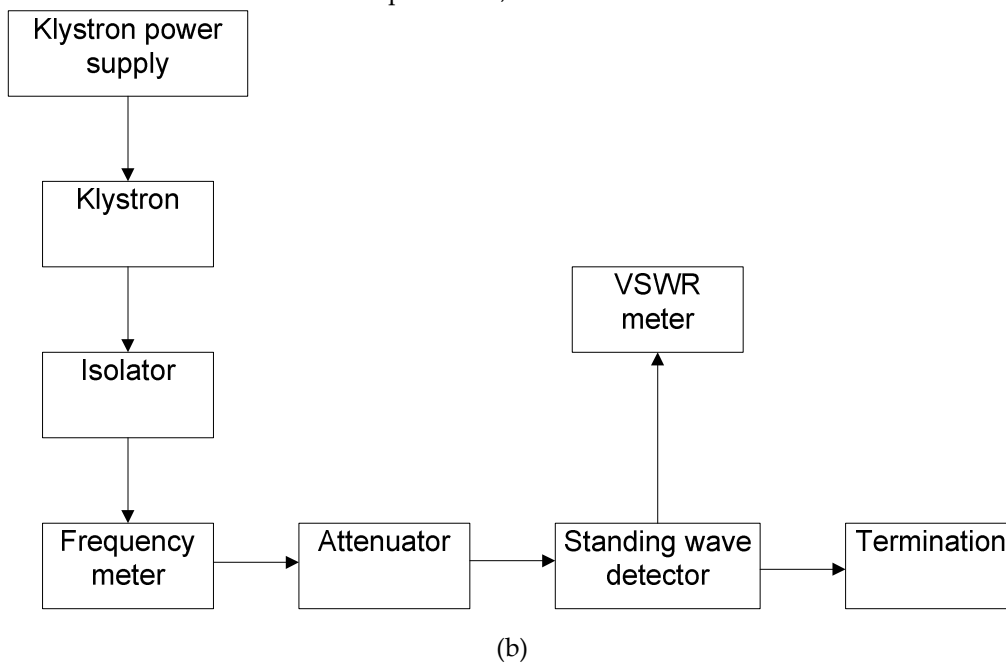

Fig.1.1 Setup for measurement of wavelength and frequency (a) Schematic and (b) Block diagram
- Set up the components and equipments as shown in Fig. 1.1.